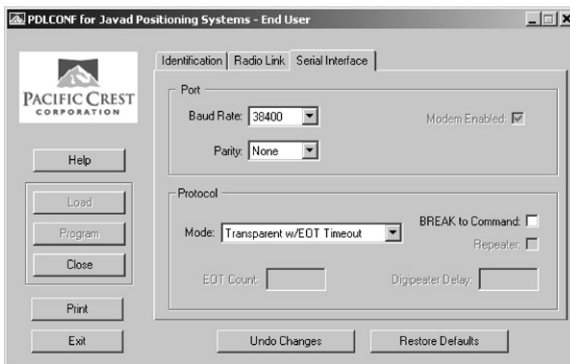

Figure 2-27. PDL Serial Interface Tab
11. Click the **Serial Interface** tab and set the following parameters (Figure 2-27):